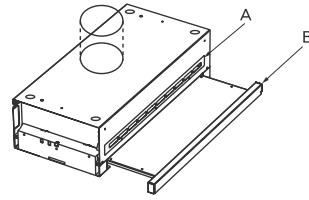

Fig.4 Preparing for install
- 1 Remove the appropriate knockout to suit top venting, as shown in Fig.4
- 2 Do not remove Cover Tape "A". See Fig.4. This is removed for recirculating only.